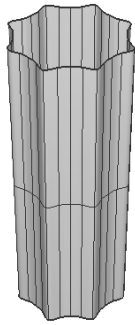

Figure 11-99 Body of the bottle created
17. Next, choose the **Skin surface** button from the **Surfaces** tab in the **Palette** and select the modified circle and its duplicate copy; the body of the bottle is created, as shown in Figure 11-99.